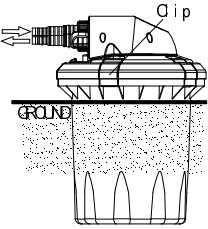

Figure 1
- Choose a suitable place to install the filter (must not be submerged in the pond). Depending on the placement of your filter, a hole could be dug to partially bury the filter. The filter can be buried up to the clips/clamp ring (See figure 1) while maintaining an upright and level position.